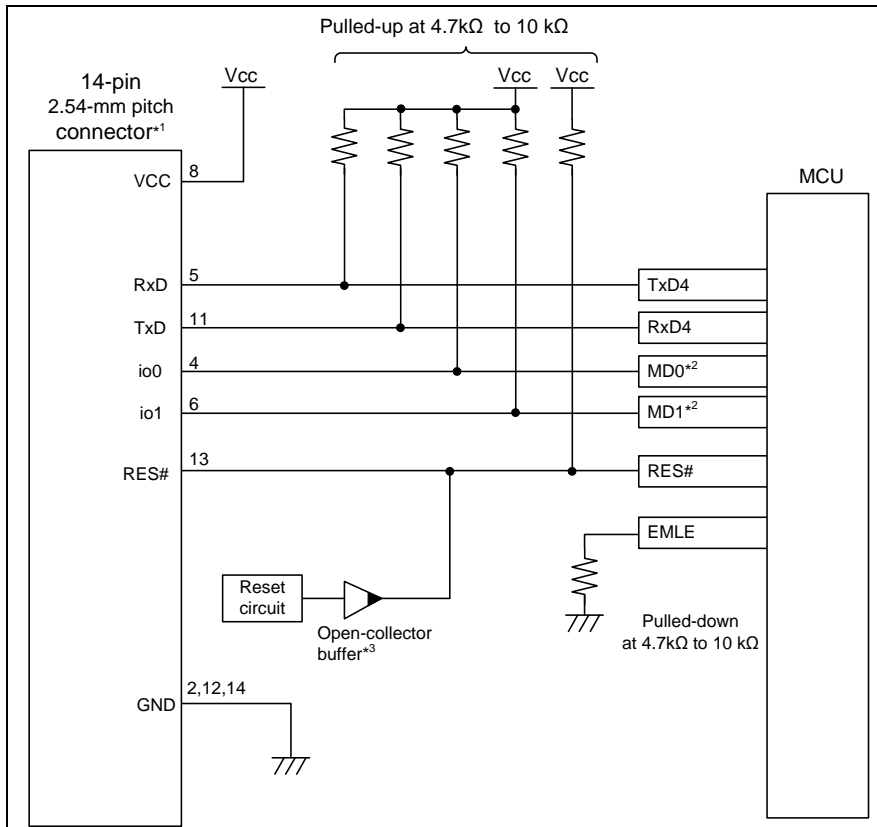

Figure 2.7 Recommended Circuit for Connection between the 14-Pin Connector and the RX610 Group MCUs when programming software is used. (for flash programming)
Figure 2.7 shows a recommended circuit for connection between the 14-pin connector and an RX610-group MCU when programming software is used.
3. When programming flash memory using programming software, connect the emulator connector and target MCU with reference to figure 2.7 for RX610 or figure 2.8 and figure 2.9 for RX621, RX62N, RX62T, or RX62G. When debugging, refer to figure 2.14 for the emulator connector pin numbers.